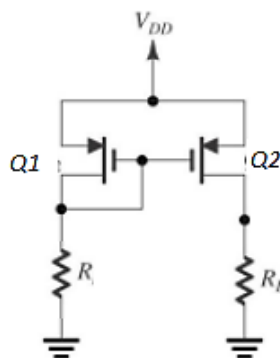

Figure 5: PMOS current mirror circuit
The constant-current source and current mirror circuits implemented in last lab using NMOS transistors can be implemented using PMOS transistors. Figure 5 shows implementation of a current-source circuit using PMOS. Here again, the drain and gate terminals of Q1 are tied together that keep the MOS in saturation region and resistance R is used to establish reference current. This current is mirrored by other PMOS Q2 whose gate terminal is tied to the gate of MOS Q1. Note that for PMOS circuits, source terminal is connected to the positive supply V_{DD} .
- For implementing the circuit shown in Figure 5, use the PMOS model created in Task 2 for Q1 and Q2.